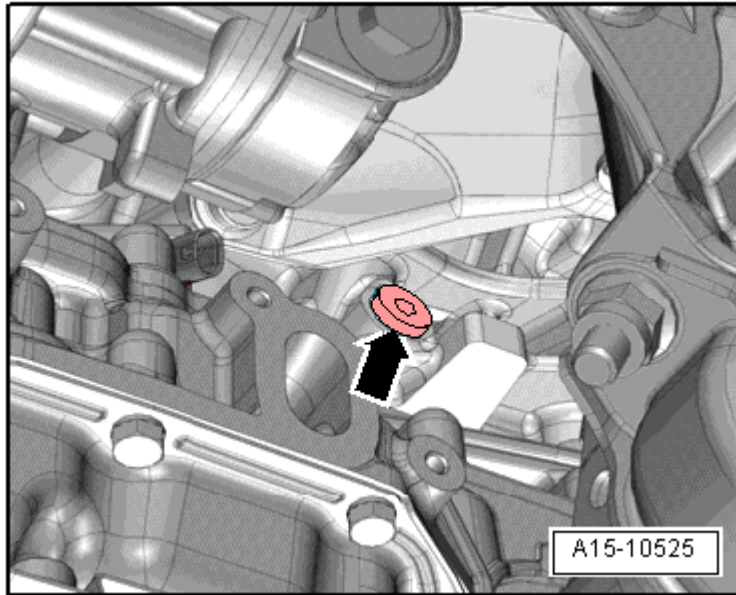

Fig. 97: Identifying Locking Bolt -Arrow-
-- Install the locking bolt "TDC" mark crankshaft. Refer to **Fig. 97**.